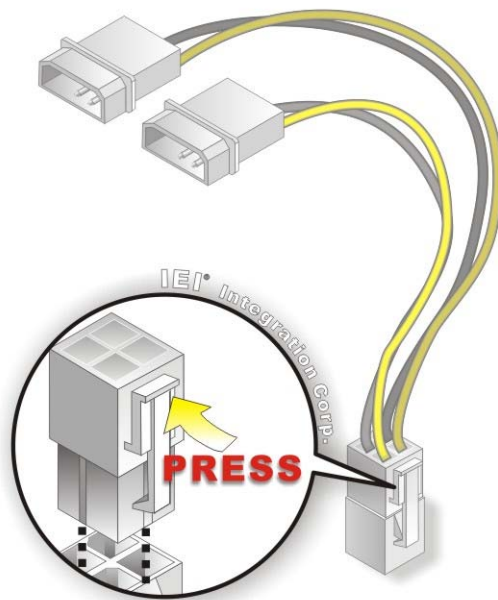

Figure 4-16: Power Cable to Motherboard Connection
Step 2: **Connect the Power Cable to the Motherboard.** Connect the 4-pin (2x2) Molex type power cable connector to the power connector on the motherboard. See Figure 4-16.